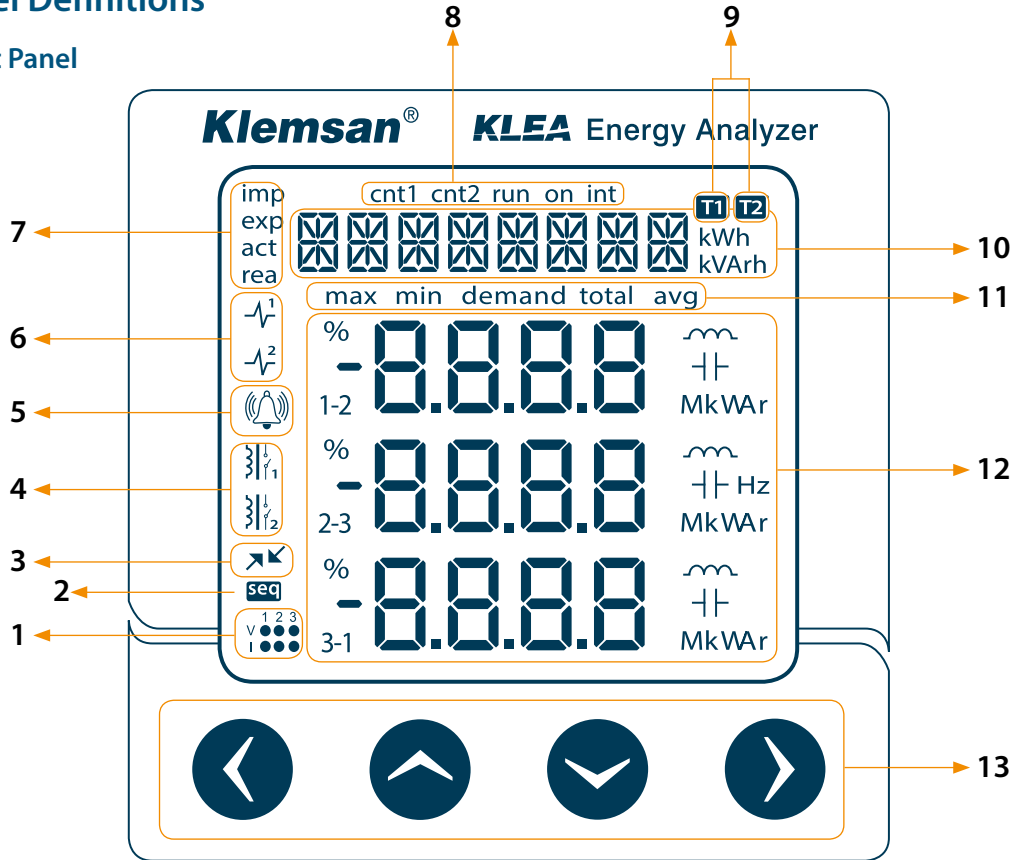

Figure 1-1 Klea 220P Front Panel
**Figure 1-1** 1st item, displays current and voltage phase position are On/Off. If a current or voltage phase seems incomplete and should be checked by the relevant links / connections reached the device.
**Figure 1-1** 2nd item, if there is an error in the voltage phase during due to incorrect sequence; "Voltage phase sequence error icon" will appear. If this icon appears; phase-sequence voltage should be checked.